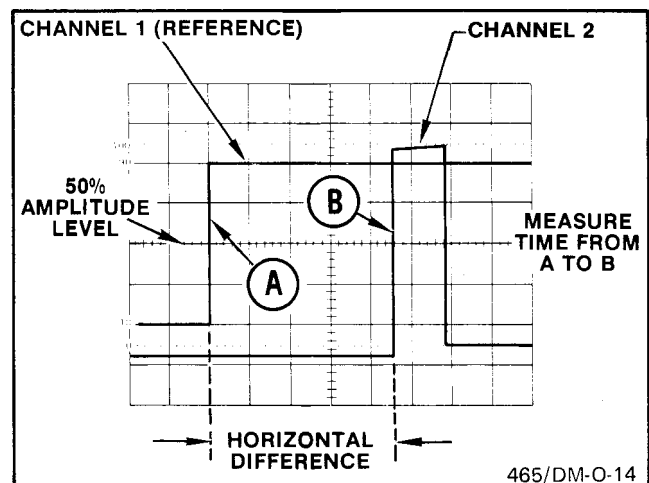

Figure 2-16. Measuring time difference between two pulses.
9. Measure the horizontal difference between the Channel 1 waveform measurement point and the Channel 2 waveform measurement point (see Figure 2-16).
EXAMPLE: Assume the SEC/DIV switch is set to $50 \mu\text{s}$, and the horizontal difference between measurement points on the two waveforms is 4.5 divisions (see Figure 2-16).